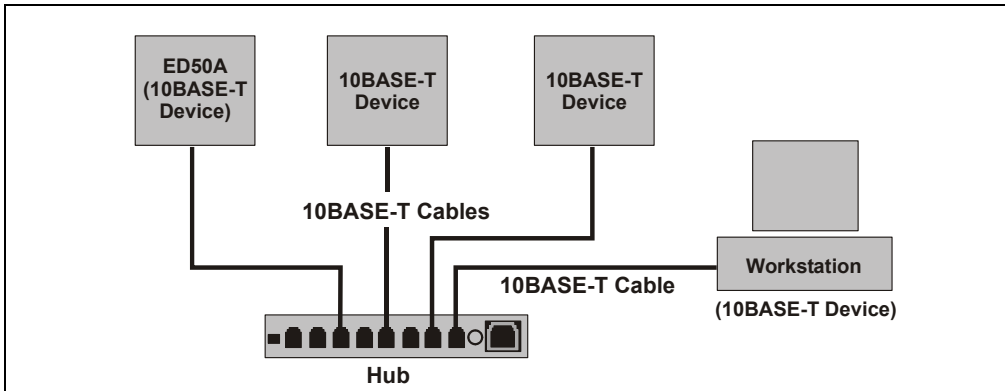

Figure B-2. Example 10BASE-T Network Connections
2. Plug the 10BASE-T DX-LAN cable into a 10BASE-T port on the hub. See the example in Figure B-2.